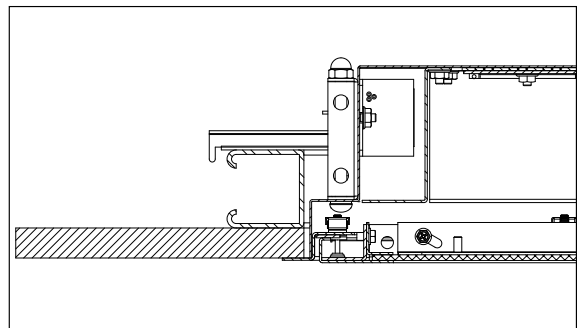

Figure 1
3. Swing arm brackets are used to mount fixture to ceiling structure. After creating the ceiling cutout, frame the opening on the plenum side of the ceiling. See Figure 1.
11. Raise luminaire into ceiling opening and turn each of the four (4) swing arm screws approximately ½ turn to swing the arm away from the housing and then lower the fixture, letting the swing arm brackets come to rest on framing.